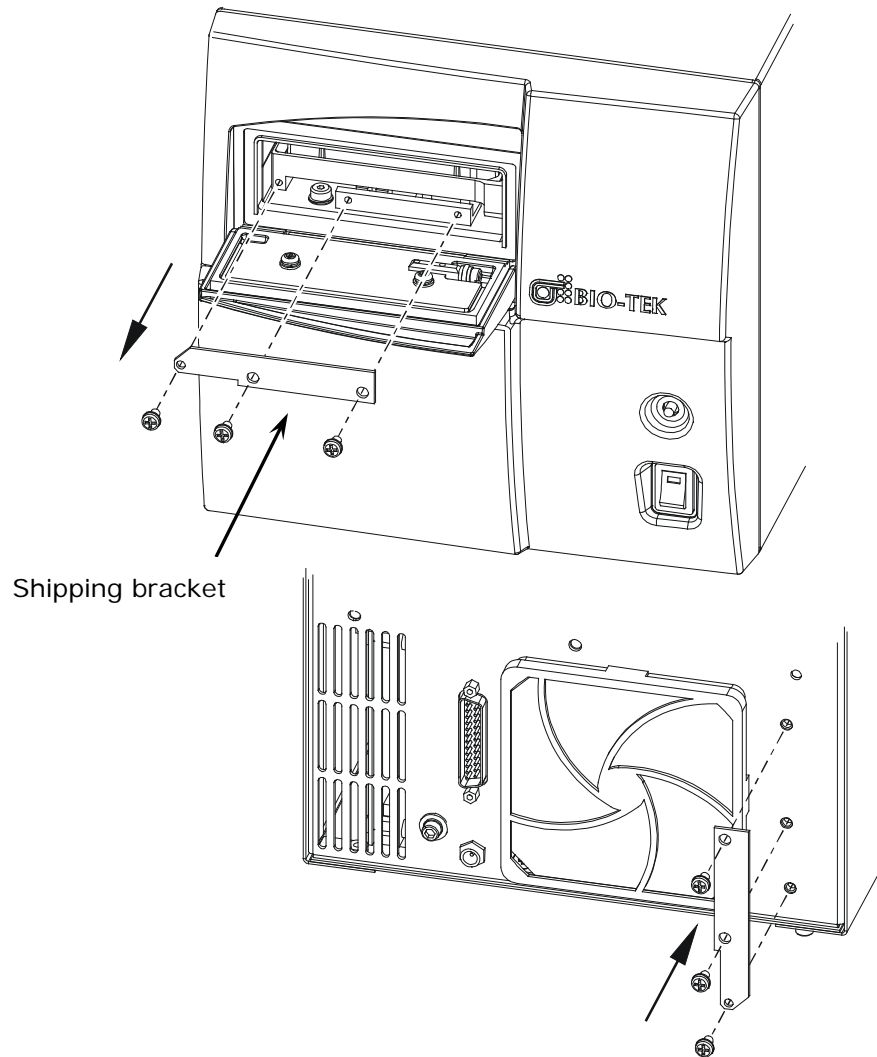

Figure 1: Remove the carrier shipping bracket and store it on the back of the reader
Important! The PowerWave ships with a microplate carrier shipping bracket that must be removed before the reader is used. See **Figure 1**.
- Refer to **Figure 1** on page 27. Using a screwdriver, remove the carrier shipping bracket and screws from the back of the reader.